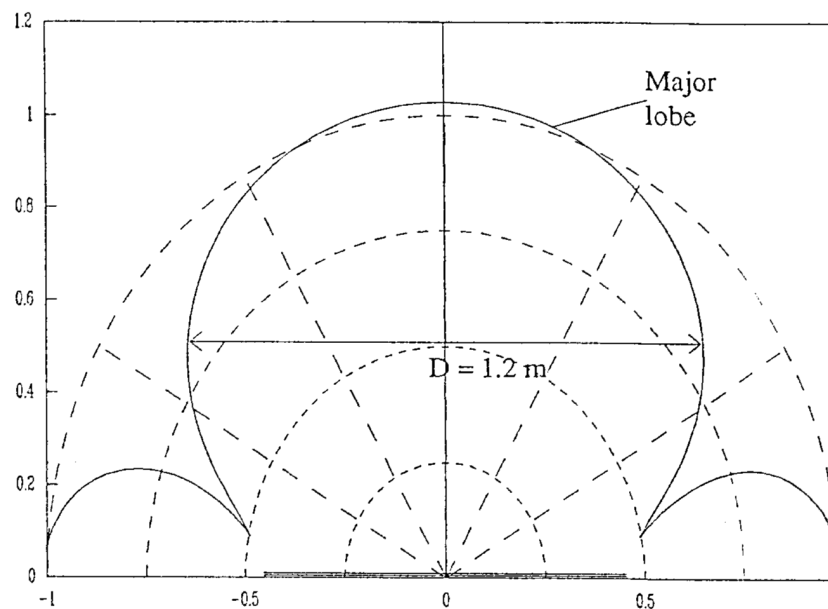

Figure 5-1. Maximum Transponder Speed
For applications when the transponder to be read is moving, the readout length is important (see D on Figure 5-1). You can calculate the worst case maximum speed of the transponder past the antenna. This is based on the dimension of the major lobe as shown in Figure 5-1.
2. Make an intersection at the place where the transponder crosses the major lobe. Determine the distance between the 5 V boundaries of the major lobe (D on Figure 5-1).
Example: (see Figure 5-1)